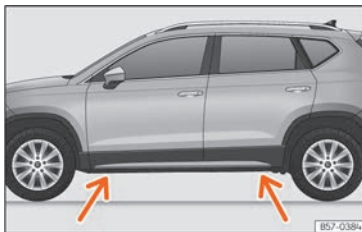

Fig. 38 Jack position points.
- Find the support point on the strut (sunken area) closest to the wheel to be changed » » **Fig. 38.**